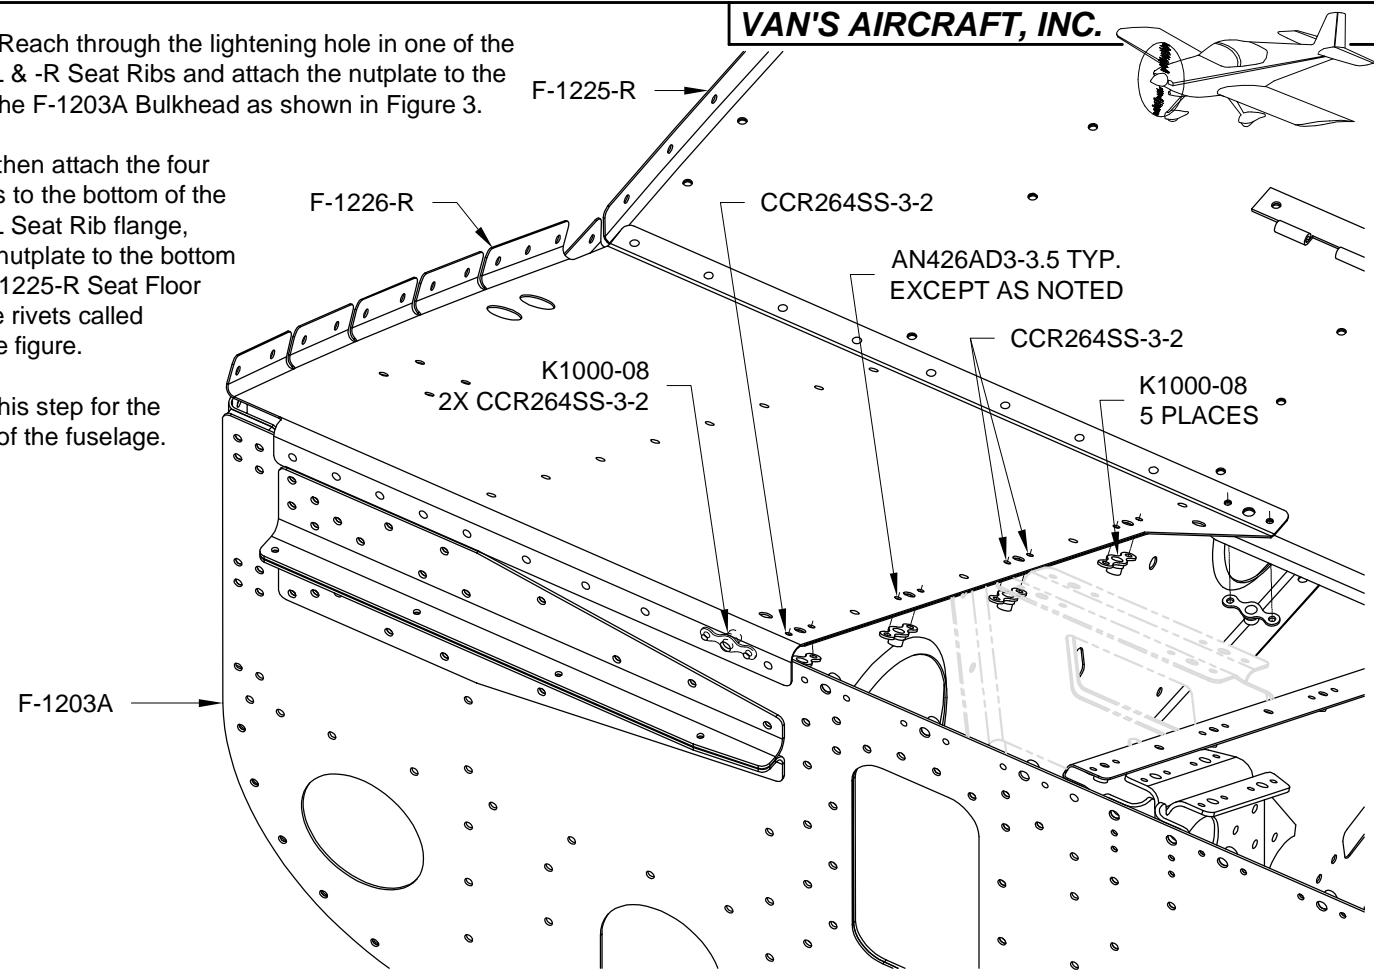

FIGURE 3: ATTACHING NUTPLATES
Step 6: Reach through the lightening hole in one of the F-1215-L & -R Seat Ribs and attach the nutplate to the back of the F-1203A Bulkhead as shown in Figure 3.